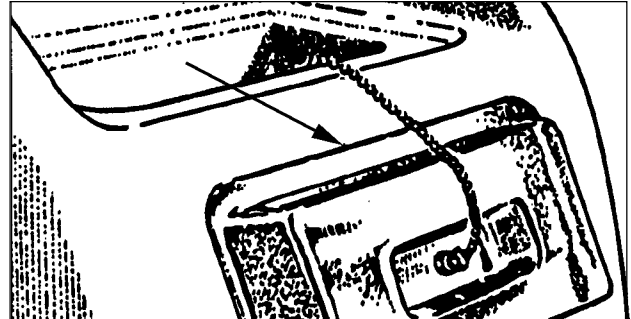

Figure 21
1. Lift the solution tank lid out of the opening. Allow the lid to hang to the front of the machine. See figure 21.